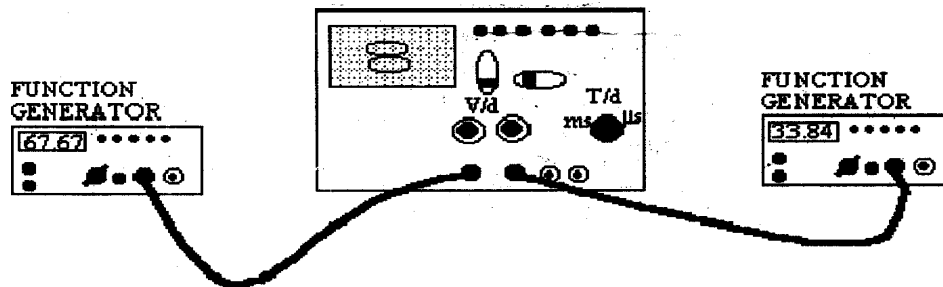

Figure 2 Connection diagram for Measurement of unknown frequency
- 1) Connect the signal of known frequency to X-channel and the signal of unknown frequency to Y-channel of CRO as shown in fig.2.